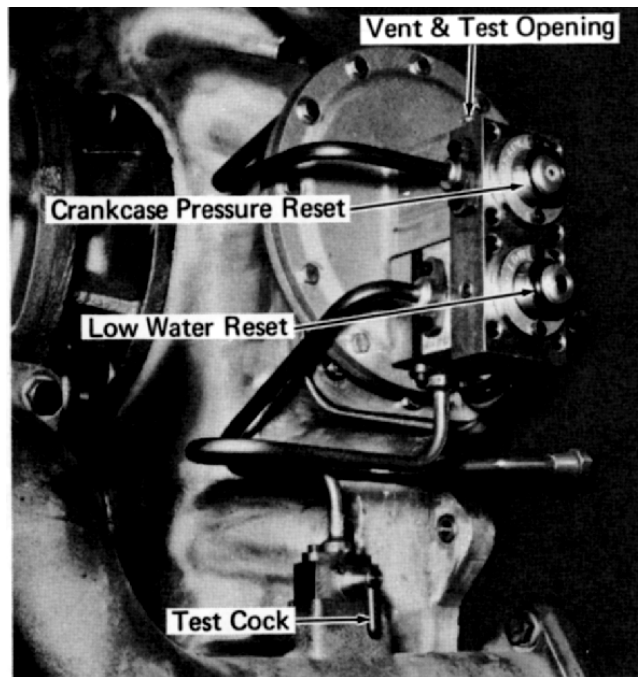

Fig. 3-2 - Low Water And Crankcase (Oil Pan) Pressure Detector
3. Observe that the crankcase (oil pan) pressure and low water detector reset buttons, Fig. 3-2, are set (pressed in). If the buttons protrude, press and hold for 5 seconds.